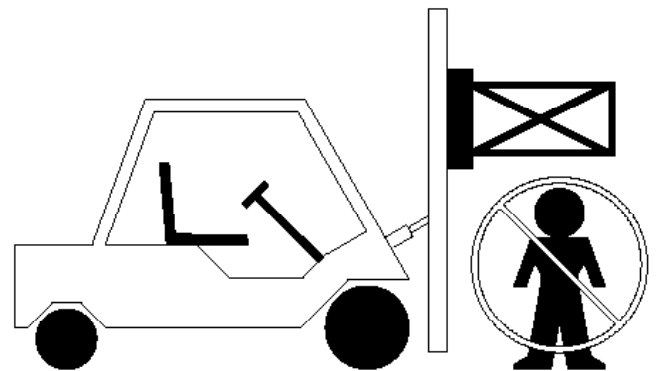

Figure 3-2
10. **Never** position an attachment or load over people. (Figure 3-2)